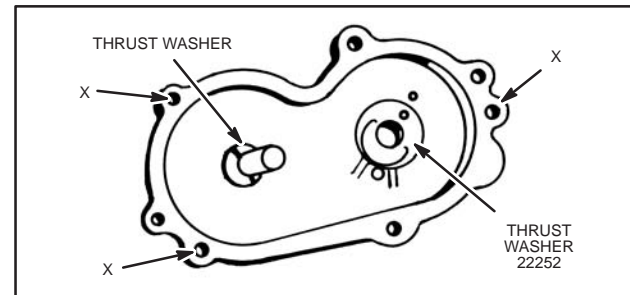

Fig. 118
intermediate gear shaft. Locate it with dowel pin. Use a little grease to hold it in place, Fig. 118.
2. If intermediate gear has too much end play and drive shaft end play is correct, remove gear case cover and place steel shim, Part #22872 (NLA), under thrust washer, Part #22078 (NLA). Use a little grease to hold them in place, Fig. 118.
1. Proceed as above but place thrust washer, Part #22252 (NLA), at drive shaft hole, Fig. 118.
- Fasten cover with three bolts at holes marked "X" in Fig. 118.
gear case cover and place steel shim, Part #22875 (NLA) under thrust washer, Part #22252 (NLA). Use a little grease to hold them in place, Fig. 118.